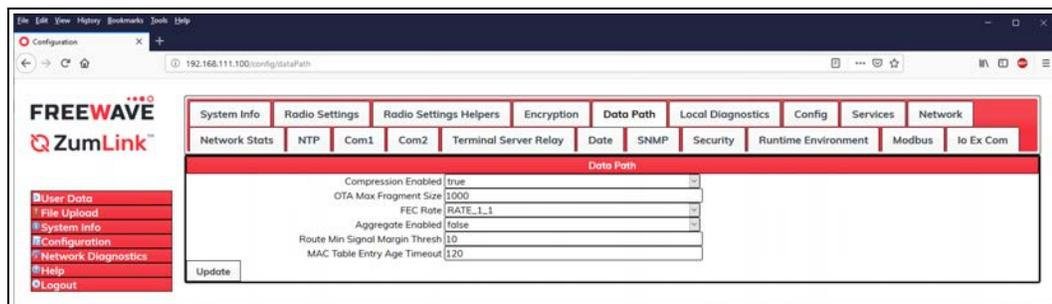

Figure 137: Data Path window
6. Click the **Data Path** tab to access the **Data Path** parameters. Figure 137